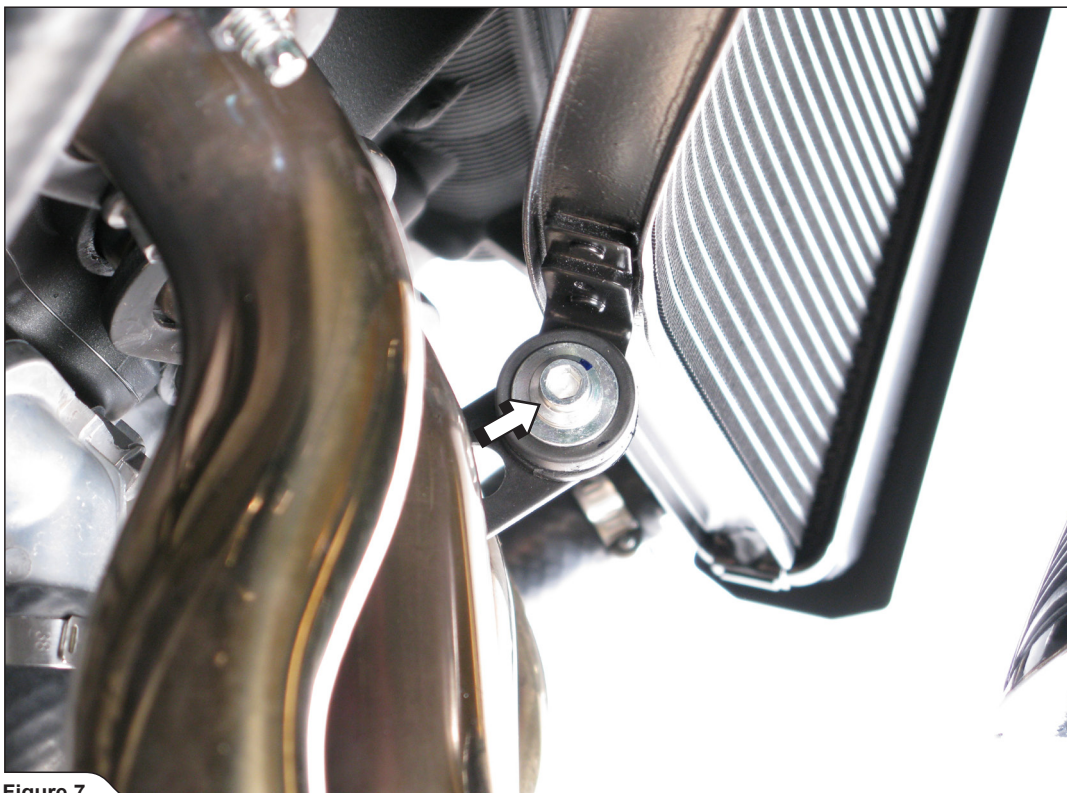

Figure 7
6. **For Akrapovič Racing only:** unscrew the bolt from the lower water cooler hanging bracket and slightly remove the cooler. Make sure not to damage the cooling fins of the cooler (**Figure 7**).